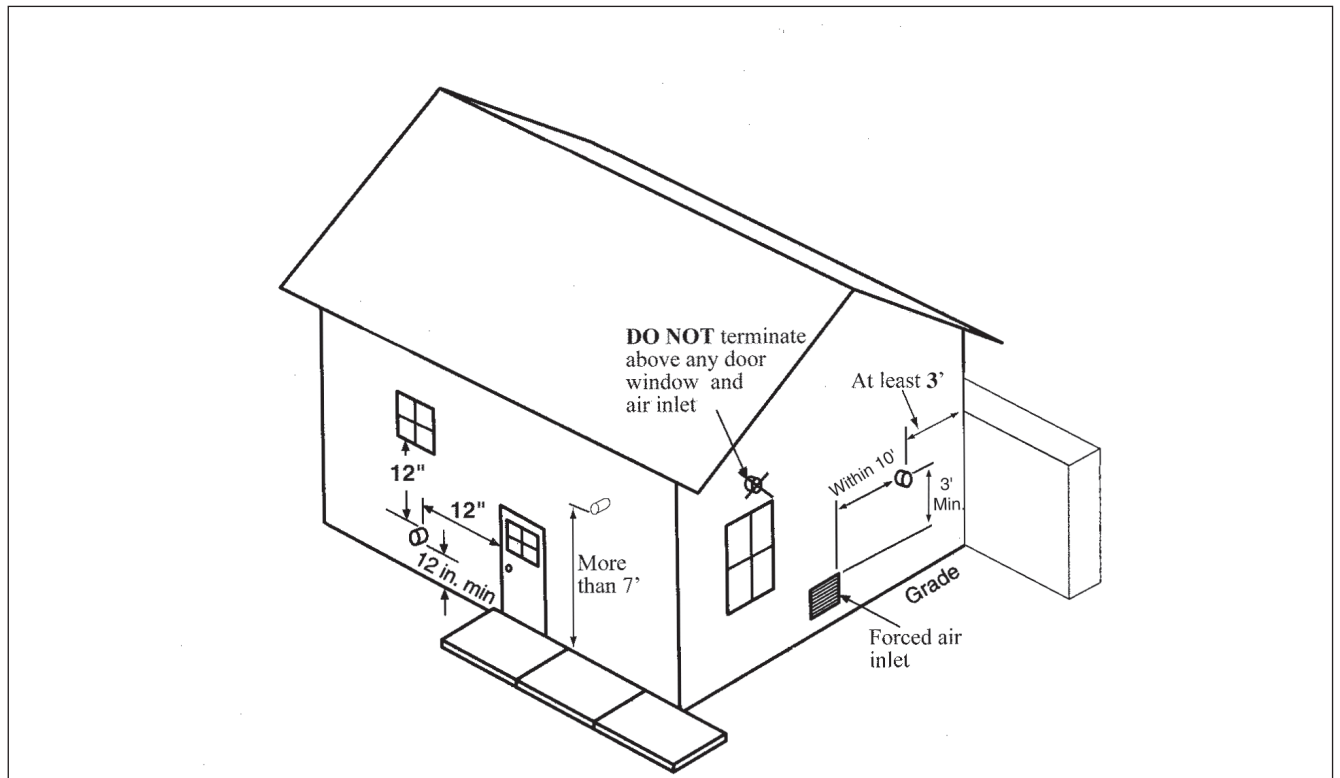

Fig. 2 - Termination Clearances of Direct Vent System
6. The vent termination must also maintain the following clearances, as shown in *Fig. 2 on page 13*:
6. The vent termination must also maintain the following clearances; as shown in **Fig. 2 on page 13**.
5. The vent termination must also maintain the following clearances; as shown in *Fig. 2 on page 13*.